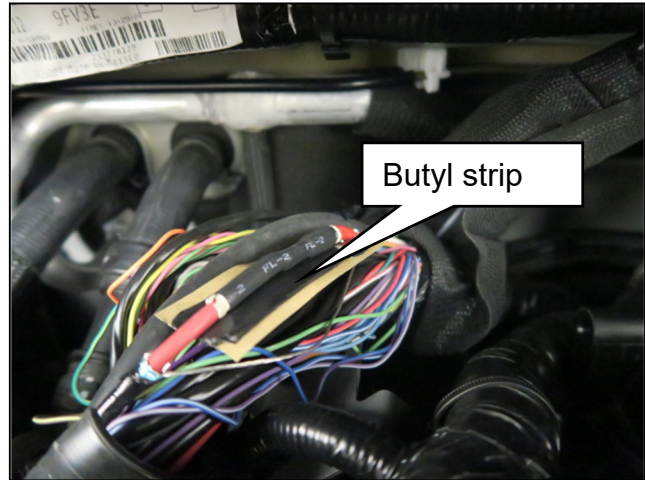

Figure 21
- a. Center the first butyl strip onto the splice as shown in Figure 21.